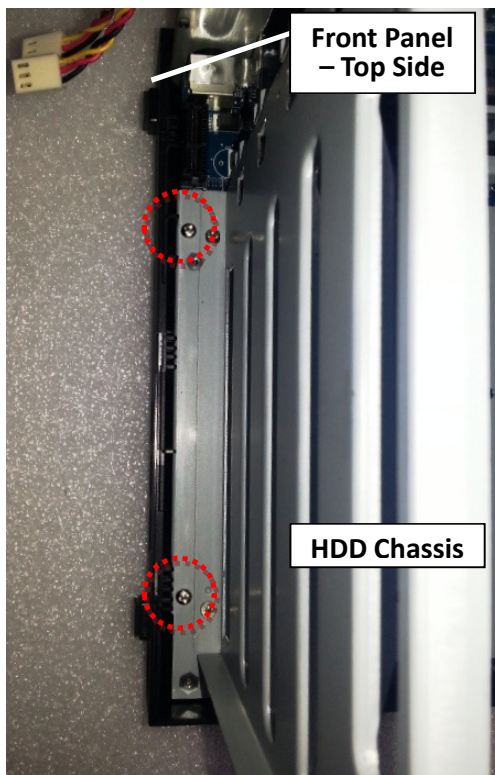
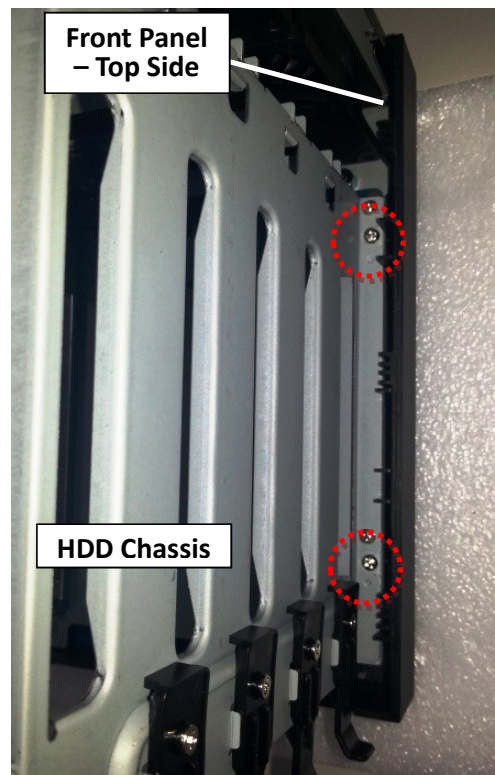

Fig. 17 - Right Side
Fig. 18 - Left Side
- 2.1.11 Release the four (4) screws on the enclosure frame (Marked by the red circles). (Fig. 17 and Fig. 18)